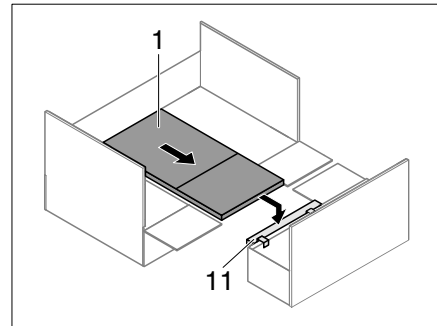

Fig. 231 Table on bed base support
- Hook in the bed base support (Fig. 231,11).
- Pull out the hook-in table (Fig. 231,1) and position it on the hooked-in bed base (Fig. 231,11).